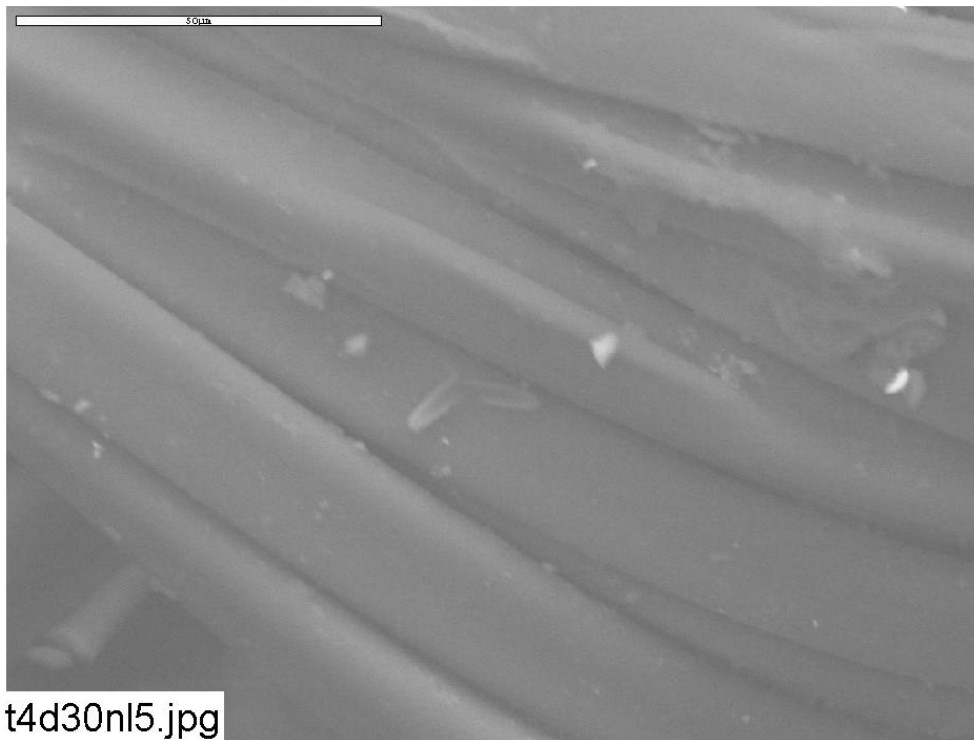

Figure C2-4. Environmental SEM image magnified 1000 times for a Test #4, Day-30 nylon mesh submerged in low-flow area (inserted on Day 4). (t4d30nl5.jpg)
- Figure C2-4. Environmental SEM image magnified 1000 times for a Test #4, Day-30 nylon mesh submerged in low-flow area (inserted on Day 4). (t4d30nl5.jpg) C2-5